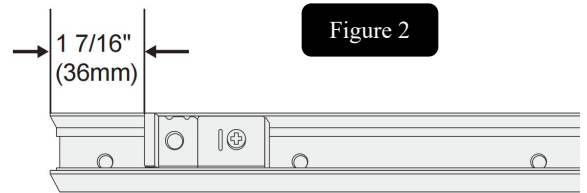

Figure 2
Step 2: Secure top pivot bracket as shown (Figure 2). The distance from the edge of top pivot bracket to the edge of track should be 1 7/16" (36 mm).